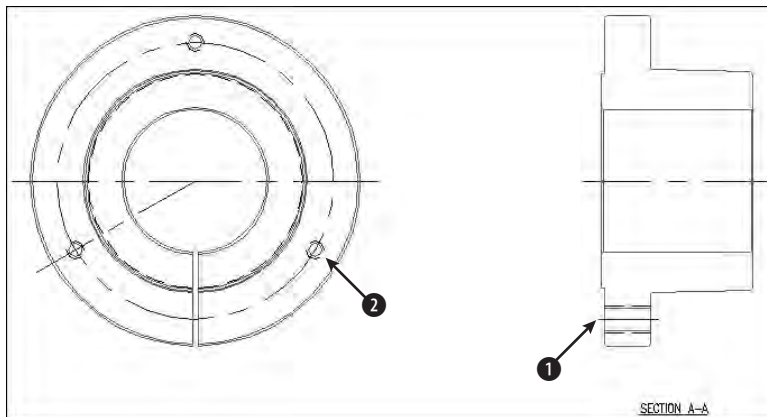
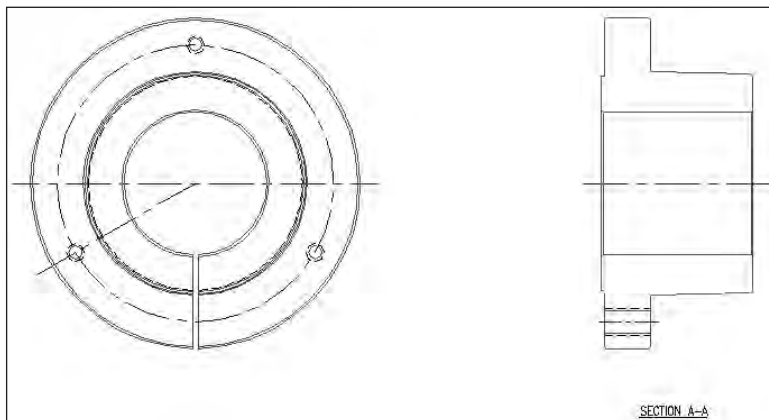

Figure 11-30: This drawing of a bushing has two noncontinuous linetypes.
Figure 11-31: The drawing's noncontinuous lines are now more appropriate.
2. Save the file as `ab11-05.dwg` in your AutoCAD Bible folder. This drawing is of a bushing, as shown in Figure 11-30. Notice that the linetype doesn't show clearly on the short line at ❶ and in the small circle at ❷.
3. Choose Format ⇨ Linetype. Click Show Details to open the Details section of the Linetype Manager, if necessary. Change the Global scale factor to 0.5. Click OK. AutoCAD regenerates the drawing. Note that the circles are better, but the short line at ❶ still looks like a continuous line.
4. Choose the line at ❶. Choose Properties from the Standard toolbar. Click Linetype scale and change it to 0.5. Press Enter. Press Esc to remove the grips and see the result. Notice the difference in the line, which now has a linetype scale of 0.5 (global) times 0.5 (object) = 0.25.
5. Save your drawing. It should look like Figure 11-31.